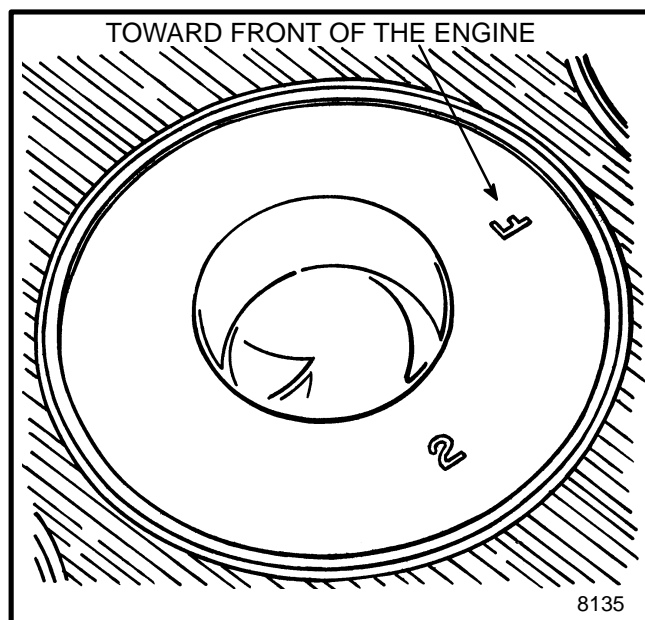

FIGURE 22. IDENTIFICATION OF THE PISTON
4. Lubricate the bores with oil for the piston pin in the connecting rod and piston. Put the connecting rod in between the piston bores. The letter “F” on the piston must be toward the fan end of the engine when the number on the connecting rod is away from the camshaft. See FIGURE 22. Push the piston pin into the piston and connecting rod. Heat the piston in warm water if the piston pin will not enter the piston. Install the snap rings.